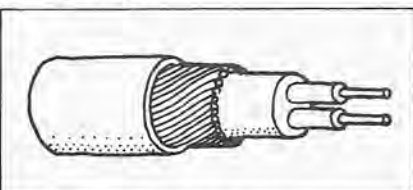

Fig. 7: Armoured PVC cable
*Armoured PVC cable* — copper conductors insulated with PVC and sheathed in galvanised wire and PVC (SWA) (fig. 7).